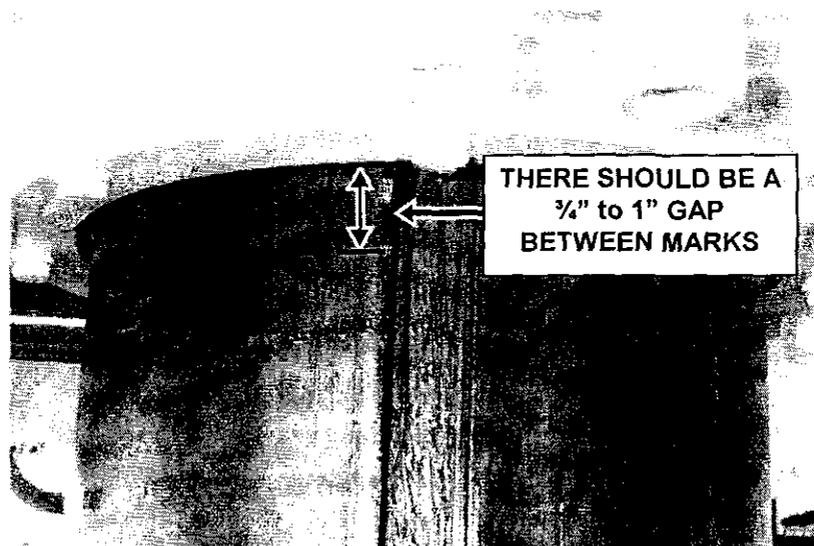

FIGURE 27
11. It is ideal for there to be between 3/4" to 1" gap between the two marks. If there is any larger or smaller gap then the rear leg tube pressure switch will have to be adjusted accordingly (figure 27).